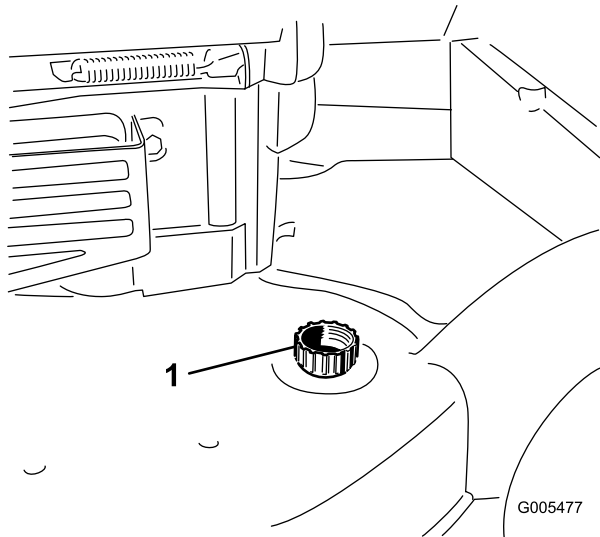

Figure 39
3. Attach a garden hose that is connected to a water supply to the washout port on the machine housing (Figure 39).